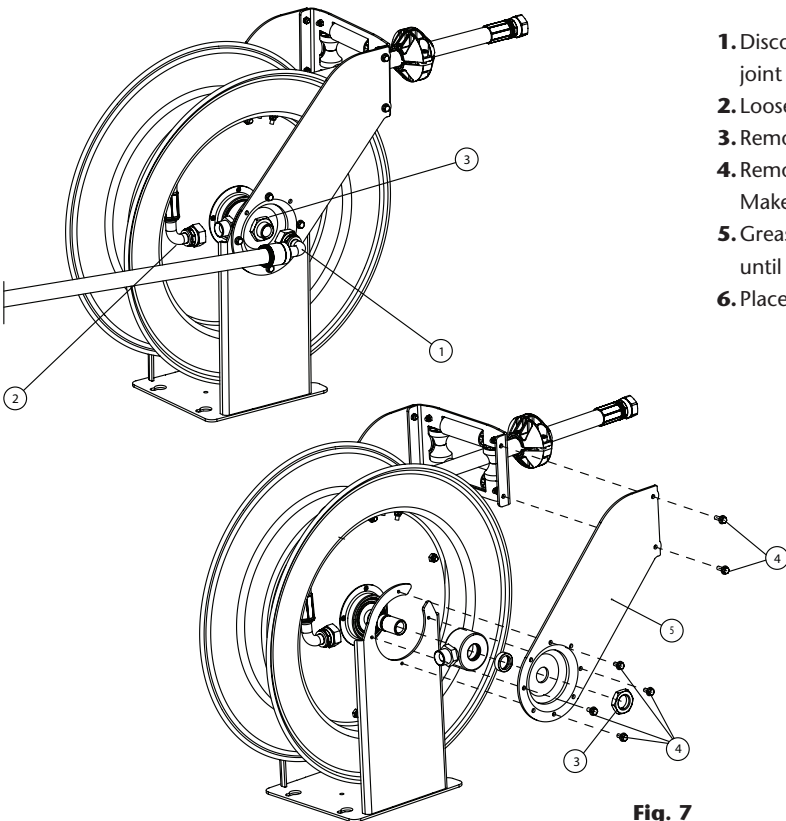
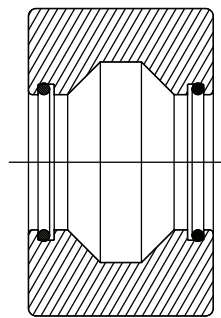

Fig. 7
Fig. 8
1. Disconnect the hoses of the inlet shaft (1) and the swivel joint (2) (Fig. 7).
2. Loosen the set screw in the nut (3) and remove said nut.
3. Remove the screws (4) and the arm (5).
4. Remove the swivel and replace it with a new one, or replace the seals. Make sure the seals are placed correctly (Fig. 8).